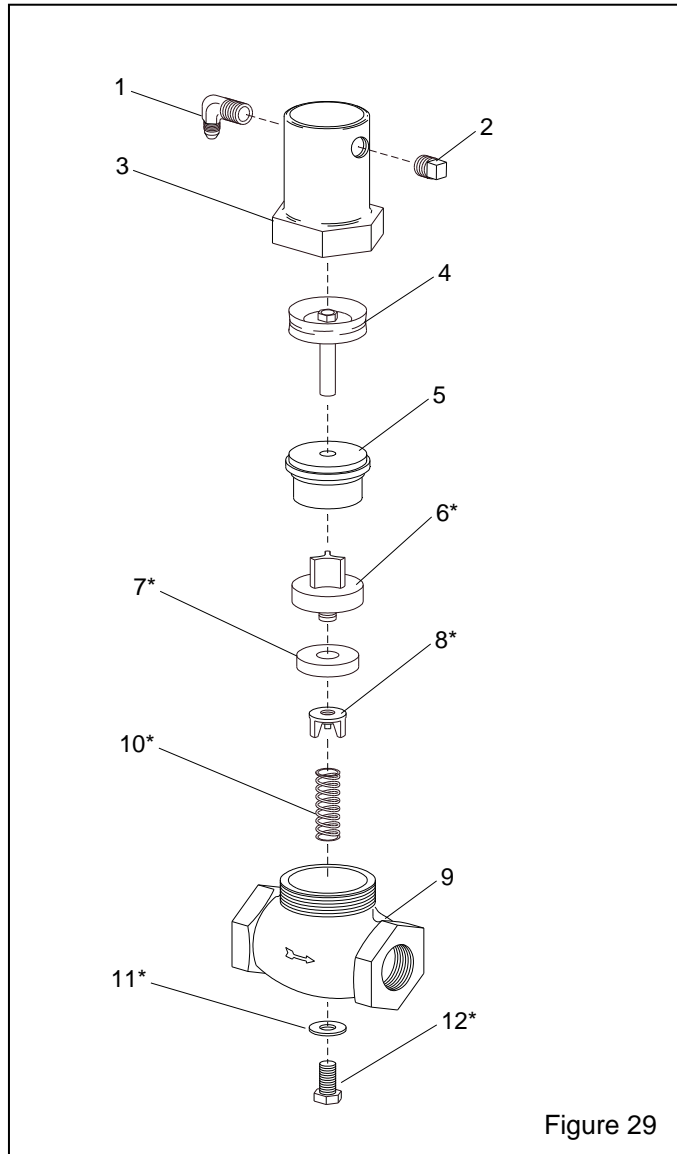

Figure 29
7.11 1" Piston Outlet Valve, Figure 29